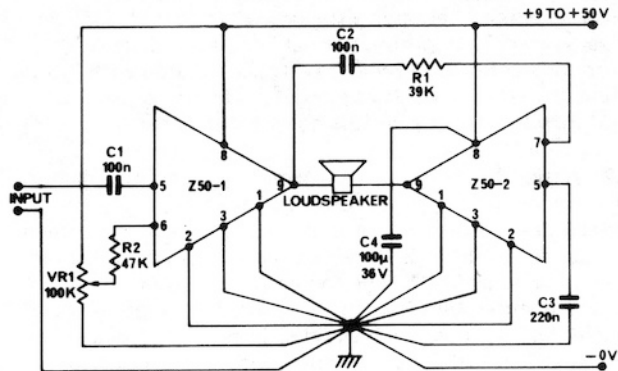

Fig 4.16.2
4.16.2 Full Bridge Circuit 60w rms Amplifier For some purposes where very high power is required or when a large power has to be delivered to a high impedance load the circuit of fig. 4.16.2 can be used. This will deliver approximately twice the power, into 15Ω , that can be delivered into 7.5Ω by the normal circuit, i.e. 60w rms continuous at 50v or 12w at 24v. It can be used with 7.5Ω load at a maximum of 35v and up to 60w rms output, or about 20w rms from 24v. It is not recommended for operation into 3Ω .